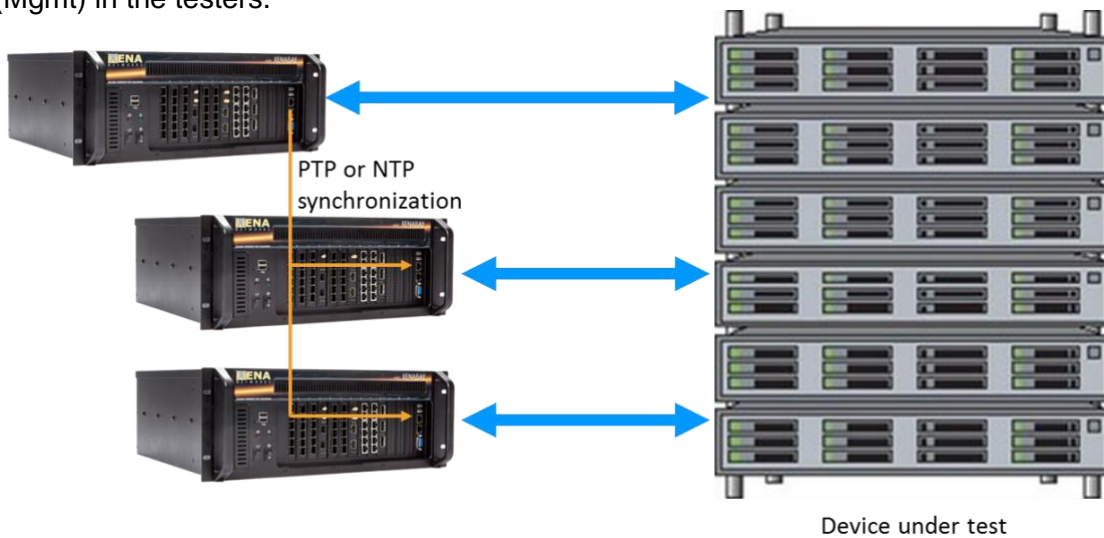

Figure 1: Lab scenario: One test chassis synchronize time in other test chassis
- One tester may act as a time server that provides the time reference to the other testers (and other devices in your network) using PTP and/or NTP (figure 1)
If you have a number of co-located Teledyne LeCroy Xena chassis in the same physical location and connected to the same local network you can use one of the chassis as a time server (see figure 1). This chassis can then serve time to the rest of the network, including but not limited to the other Teledyne LeCroy Xena chassis. The best results will be obtained by using PTP between the Teledyne LeCroy Xena chassis.